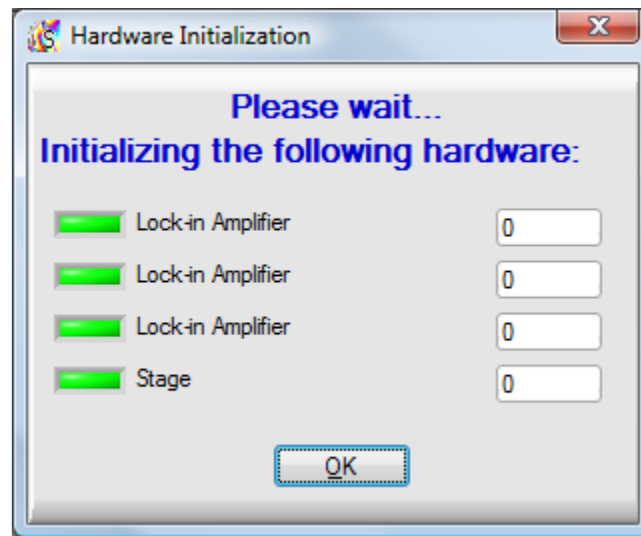

Figure 3.1 Hardware Initialization Screen
2. Launch the software program by double-clicking the Exicor desktop icon. Upon system initialization, a diagnostic screen will appear as shown in Figure 3.1. This diagnostic feature verifies proper hardware communication.